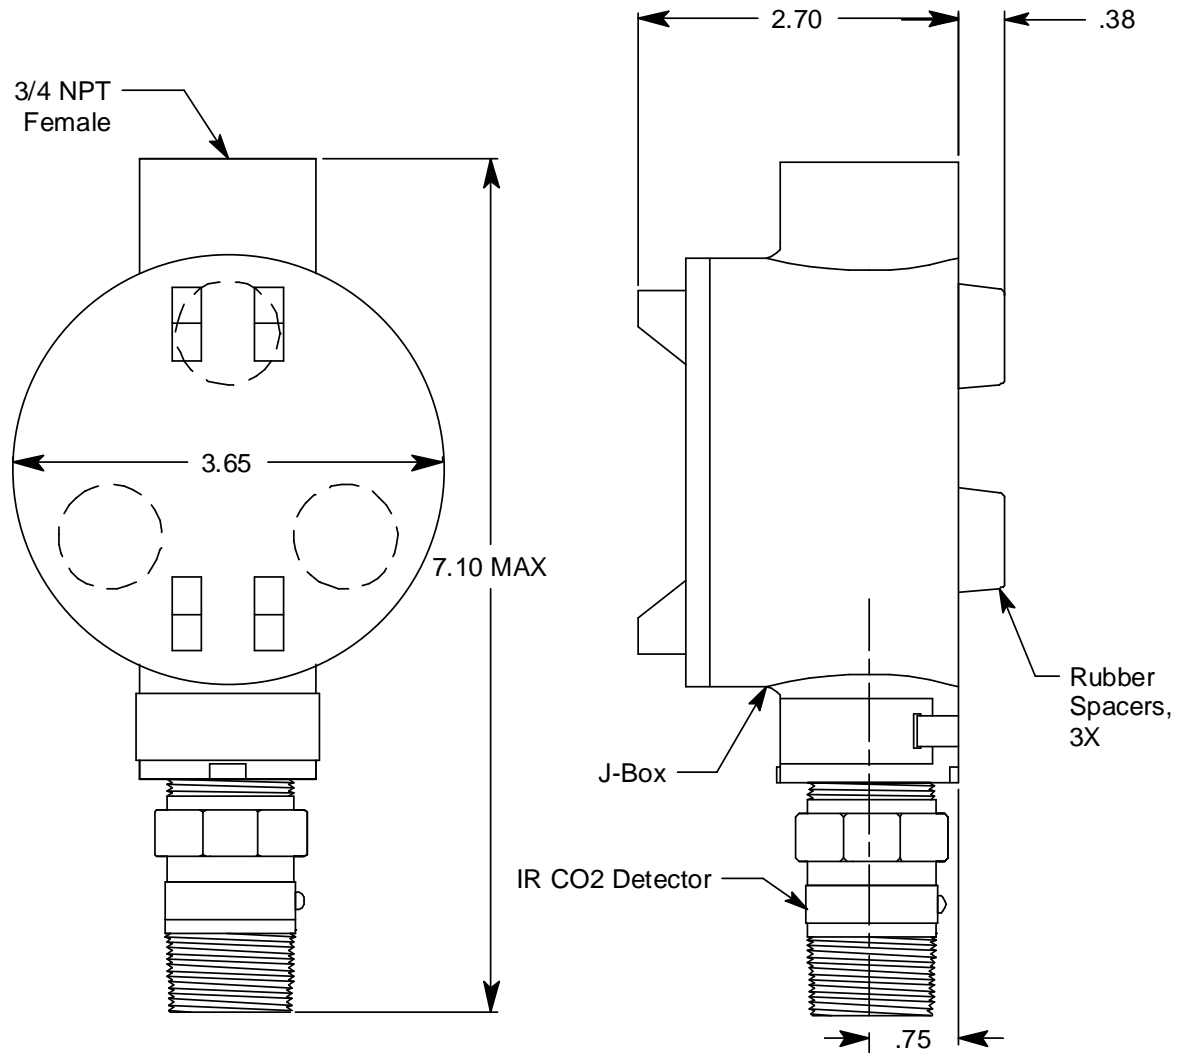

Figure 2: Mounting the CO2 Transmitter
2. At the monitoring site you select, hang or mount the junction box with the detector facing down (see Figure 2).